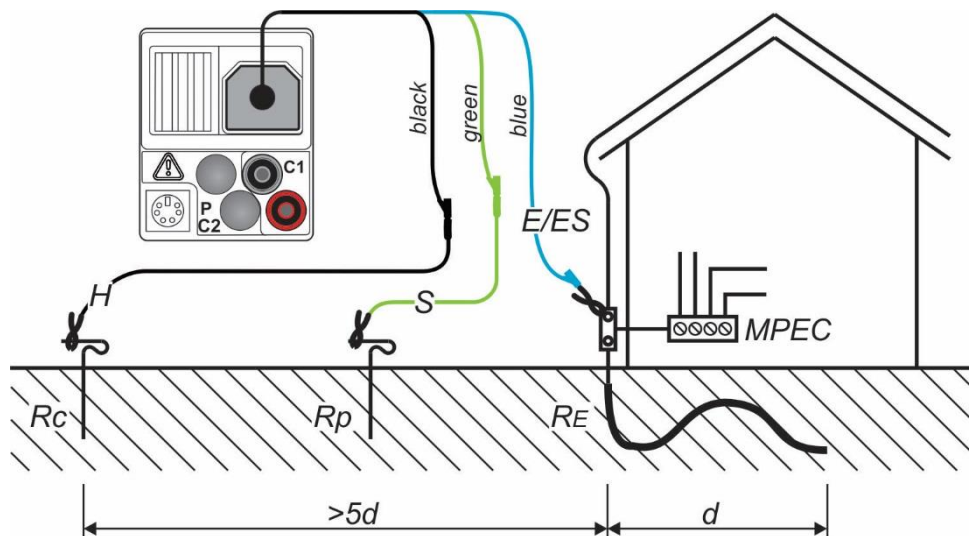
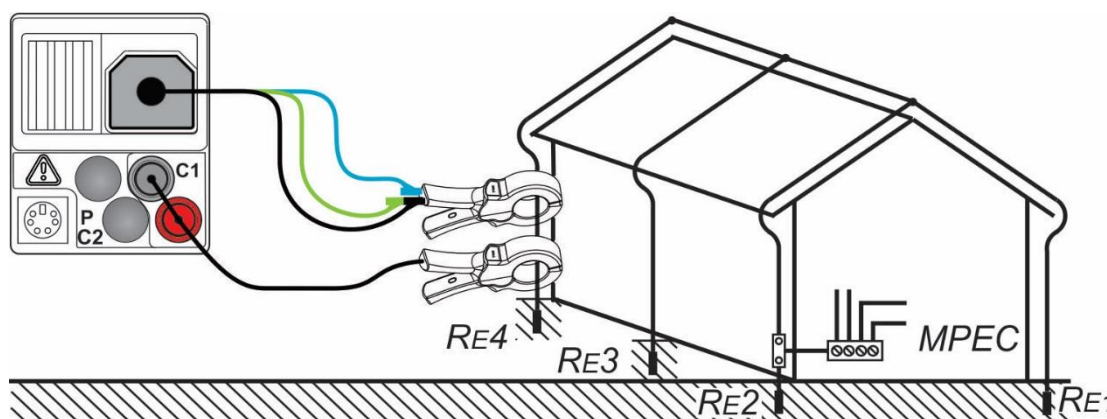

Figure 5.36: Resistance to earth, measurement of main installation earthing
Figure 5.39: Contactless earthing resistance measurement
- ❑ **Connect** the item to be tested (see Figure 5.36, Figure 5.37 and Figure 5.39).